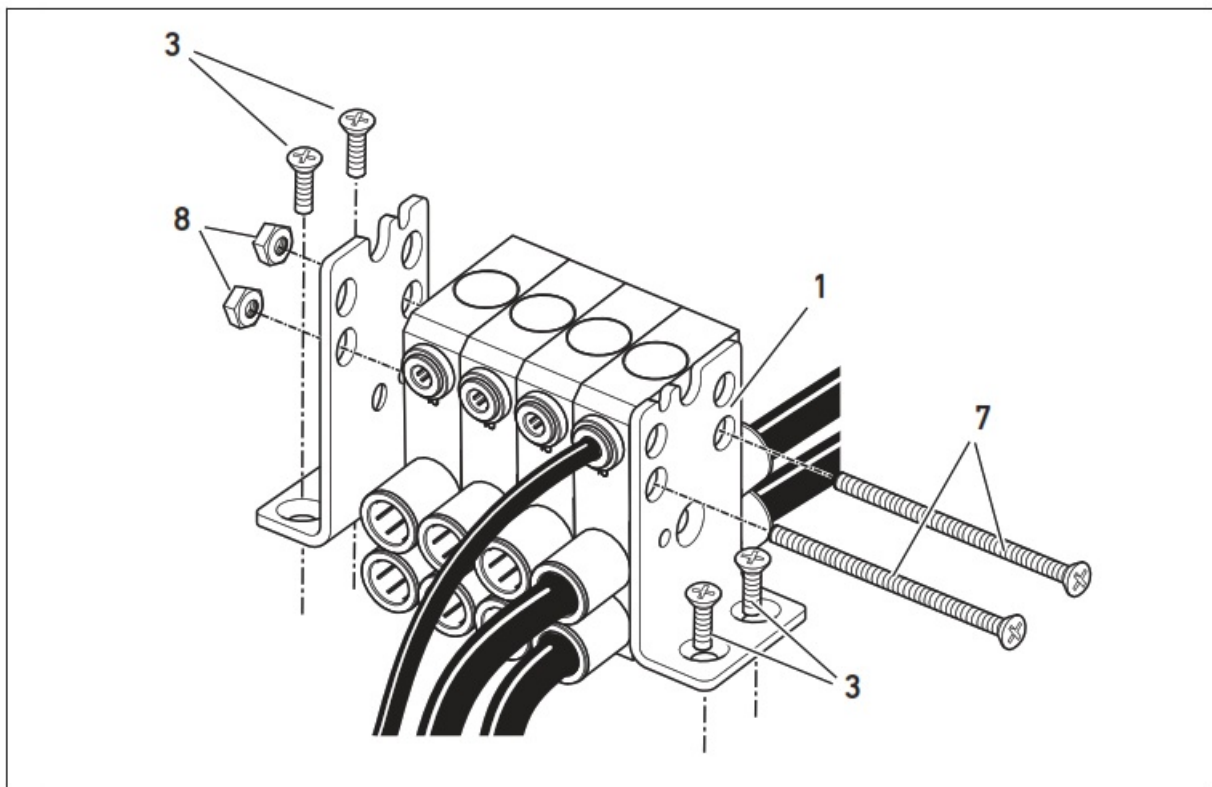

Fig. 7: Mounting and stacking exhaust modules, shutoff modules, throttle modules, and single-channel pressure regulators
2. Guide both M6 screws (7) through both the through holes on the mounting brackets and function modules (see Fig. 7).
3. Place one M6 nut (8) on each of the two screws and tighten them. Tightening torque: 1.2 ± 0.2 Nm